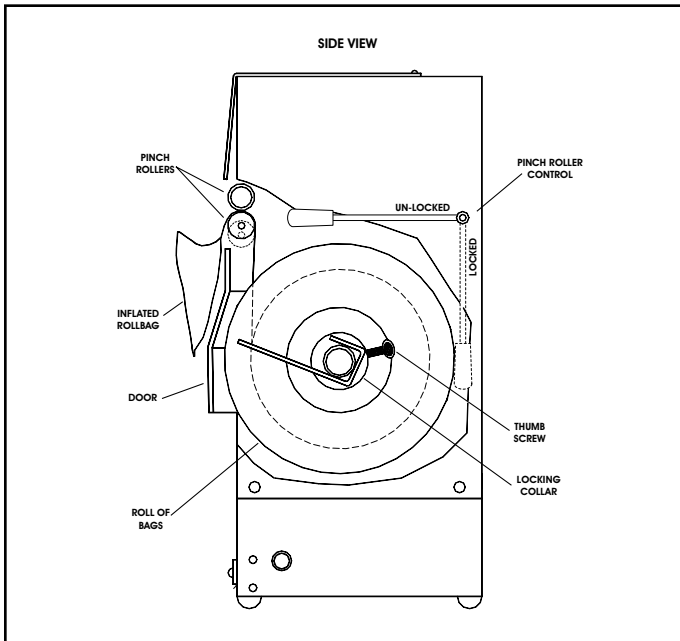

Figure 3: Bag Roll Routing
8. Insert the end of the first bag from the roll between the pinch rollers. Make sure bag is centered with no wrinkles. (See Figure 3)